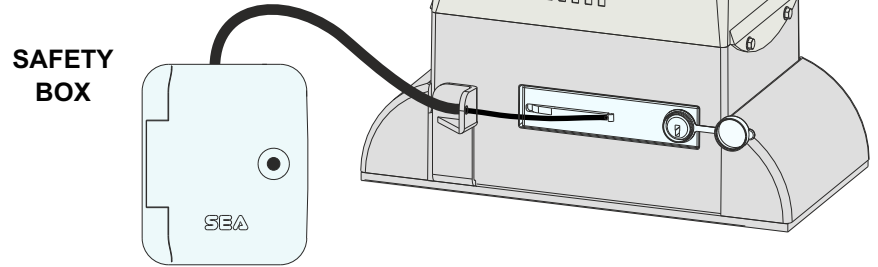

Fig. 33
11.1. An external release system wired to a safety box can be connected to the LEPUS operator, as shown in Fig. 33